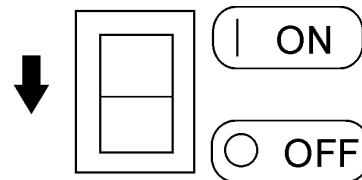

Figure 22. Idle Control Switch (Off)
2. Place the **idle control switch** (Figure 22) in the **OFF** position.